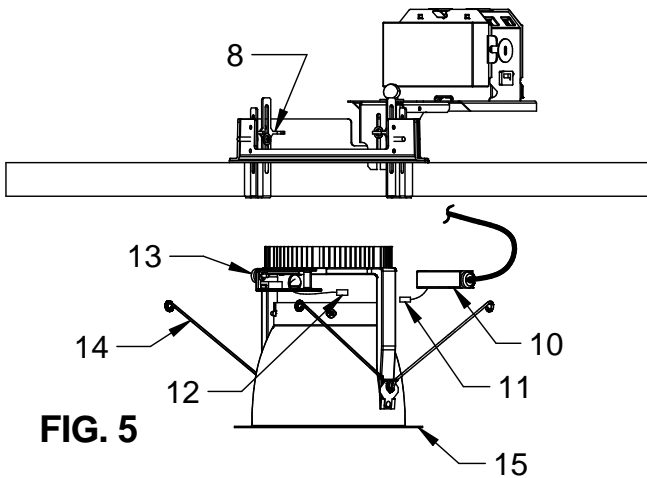

FIG. 5
- E. Pull connector (11) and electrical cover (10) below ceiling and plug connector (11) into module (12). Snap electrical cover (10) onto module (12) and tighten thumb screw (13) to secure electrical cover (10). Insert two torsion springs (14) into two brackets (8) and push trim assembly (15) towards ceiling until springs pull trim assembly firmly against ceiling. (SEE FIG. 5 and 6)